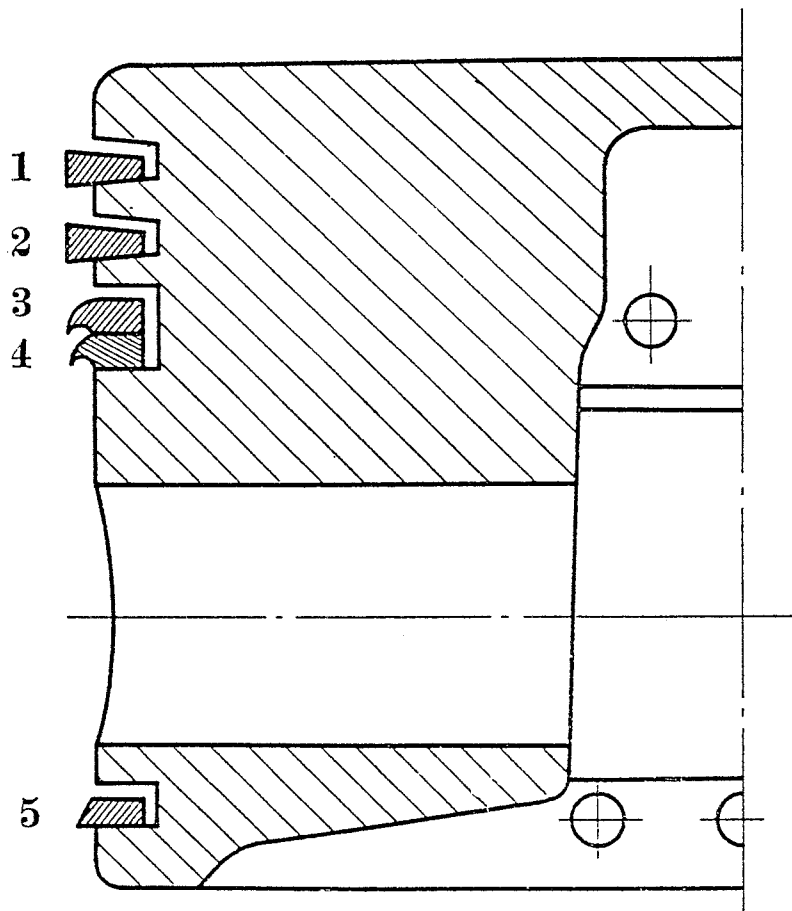

Fig. 12 Mounting Scheme of the Piston Ring of Type-6A Piston Engine
(3) Replace the piston ring.
C. Install the piston ring: The trapezoid sealing piston ring with chromium plating should be installed in the first and second grooves of the piston ring. For the modified piston, install two channel shaped scraper rings in the third groove (install only one "U"-shaped scraper ring in the original position). Install the conical scraper ring in the fourth groove, its conic top (marked with "UP") should face the piston top (Fig. 12, 13).